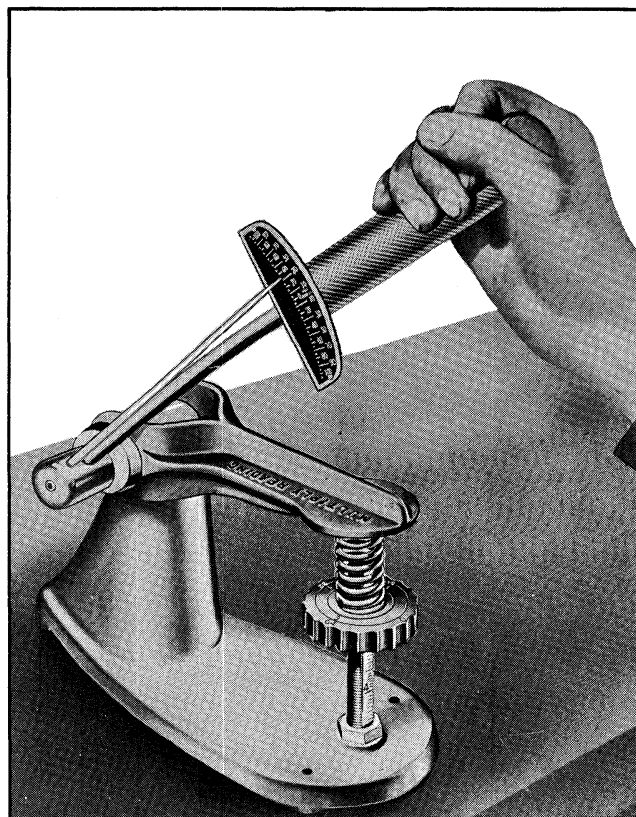

Fig. 6-36 Checking Valve Spring Tension
4. Check valve spring tension with suitable tester (Fig. 6-36).